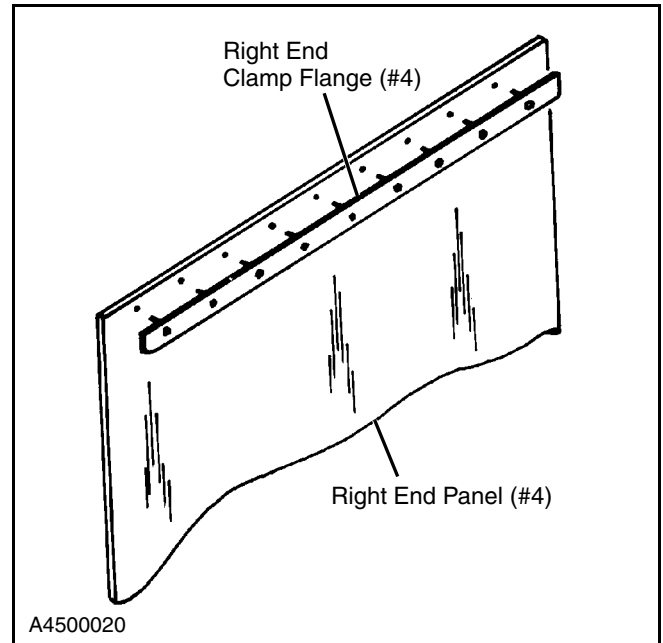

Figure 18
1. Insert the studs on the right end clamp flange (#4) through the holes in the upper edge of the right end panel (#4). (See Figure 18.)